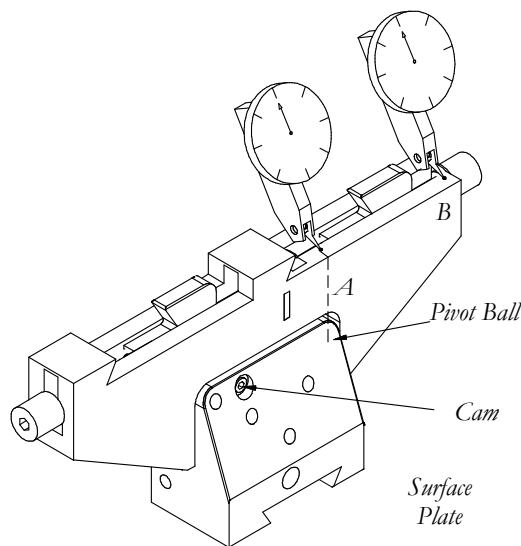

Figure 3
STEP 9. (A). Place the indicator ball on the vise bed directly above the pivot ball as shown in Fig. 3, point A. **(B).** Zero the indicator. **(C).** Move the indicator to the right end as shown in Fig. 3, point B. **(D).** Turn the cam until the indicator returns to zero. The third axis is trued in.